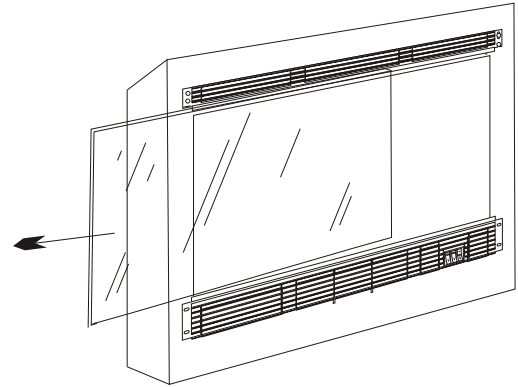

Fig 2
4. Take off the glass carefully. (see fig 2)